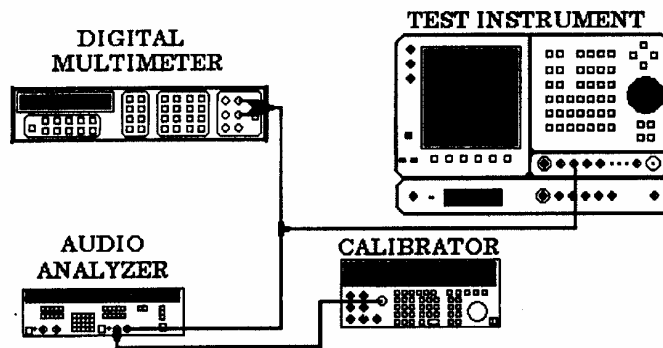

Figure 3. SINAD/distortion accuracy connection.
(2) Connect equipment as shown in figure 3. Set audio analyzer source level to minimum, multimeter to measure volts ac, and press calibrator **WIDEBAND** key on.
(1) Connect equipment as shown in figure 3. Set audio analyzer source level to minimum, multimeter to measure volts ac, and press calibrator **WIDEBAND** key on.
- (2) Press key sequence listed in (a) through (f) below: